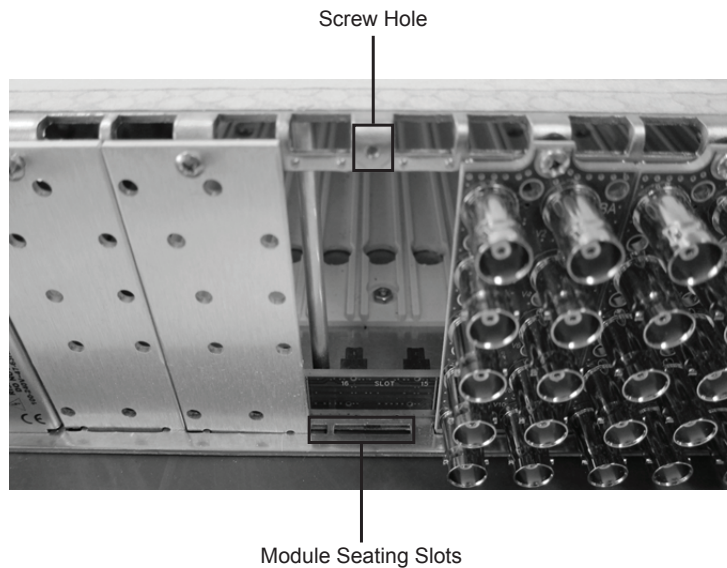

Figure 2.1 Rear Module Installation in an OG3-FR Series Frame (VRC-100 not shown)
3. Install the bottom of the Rear Module in the **Module Seating Slot** at the base of the frame’s back plane. (**Figure 2.1**)